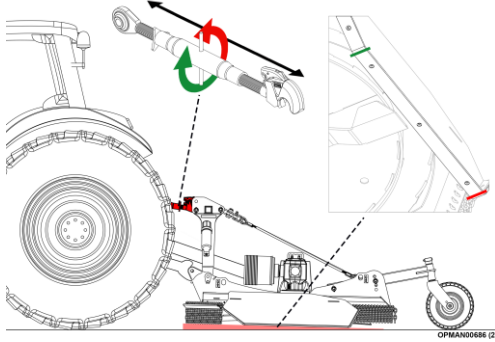

Figure 4.6
- 4.3.1.8 Stop the tractor and proceed to adjust the top link between the tractor and machine in order to set the deck at the correct operating angle. To do this its best practice to measure the front and rear of the skids; as shown in Figure 4.6. Furthering this, ensure that there is slack in the headstock wire ropes in order to allow the headstock to float when in work on undulating terrain.